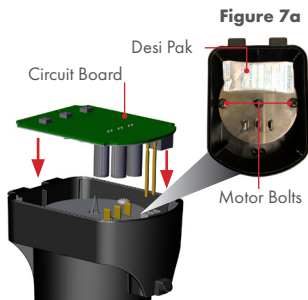

Figure 7
7. Install the **Circuit Board**. **FIG 7**